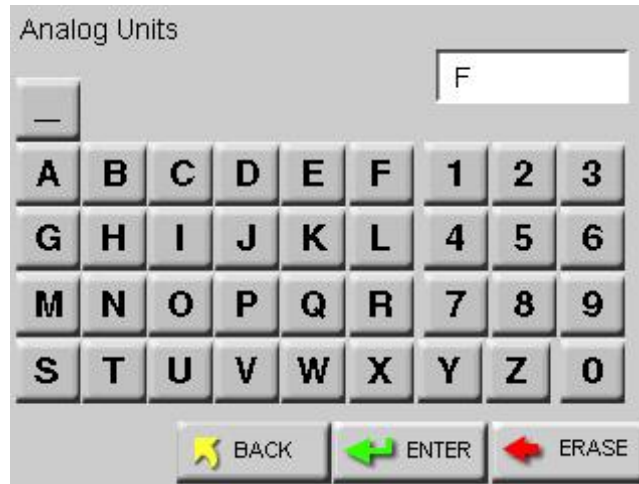

Figure 4-5 Analog Units Edit Screen
12. Press the UNITS button associated with the analog channel. Enter the UNIT of measure (i.e., F for Fahrenheit, PCT for percent humidity, etc.) for the analog channel and press ENTER. See Figure 4-5.